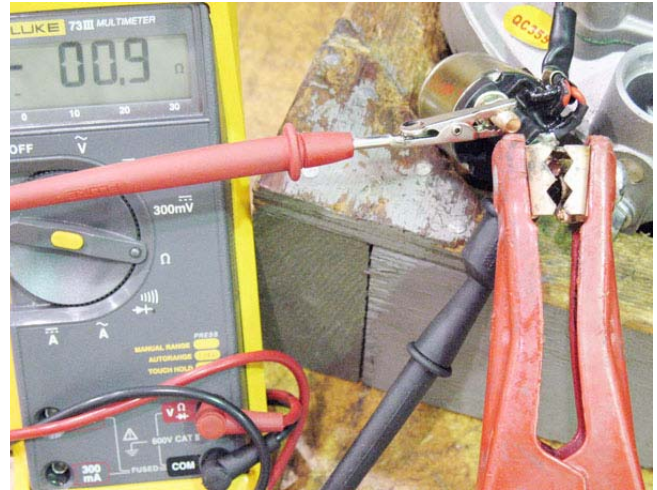

Figure 6.18
8. Reconnect the DMM with it still on the Ohms ( $\Omega$ ) scale. See Figure 6.18.